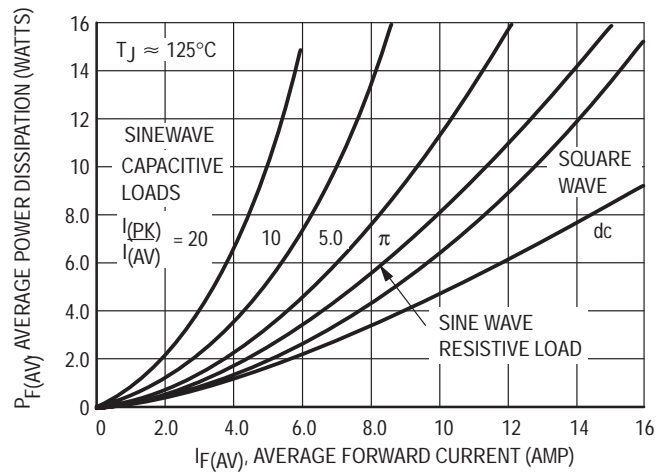

Figure 4. Forward Power Dissipation
Step 3. Find $P_{F(AV)}$ from Figure 4. **Read $P_{F(AV)} = 10$ W